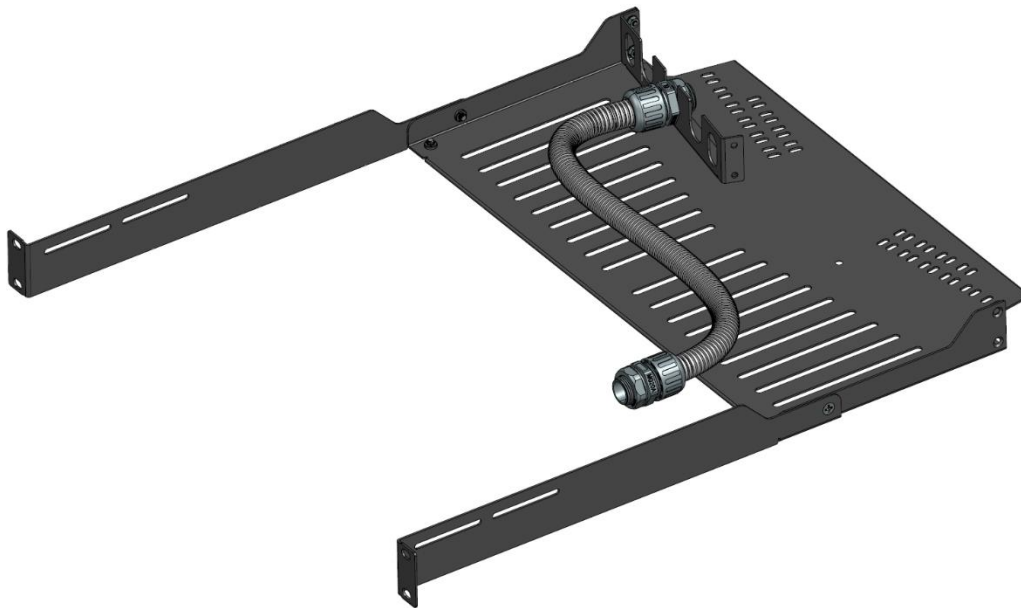

Fig. 3C
- Take the Conduit tube assembly (affixed with conduit glands on both ends) and fasten one end to any of the U slot on the conduit gland bracket. (Fig 3C).